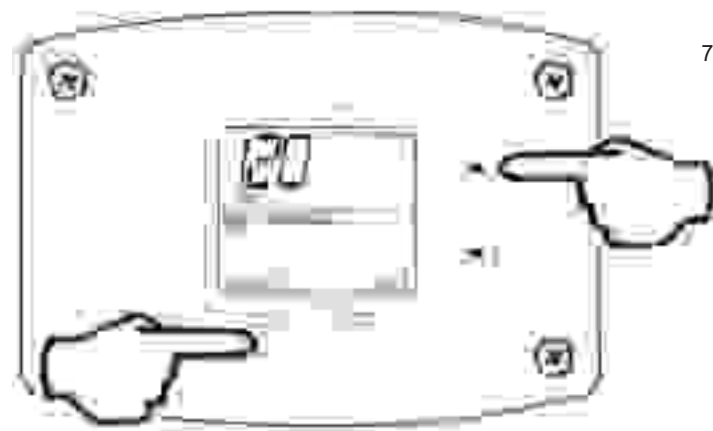

Fig. 75
7. 10 seconds after the last button press, the Water Heater Display will revert back to the current error code display. To exit Service Mode, either wait 30 seconds or press Temperature Up button and Select Button for 3 seconds (Fig. 75).